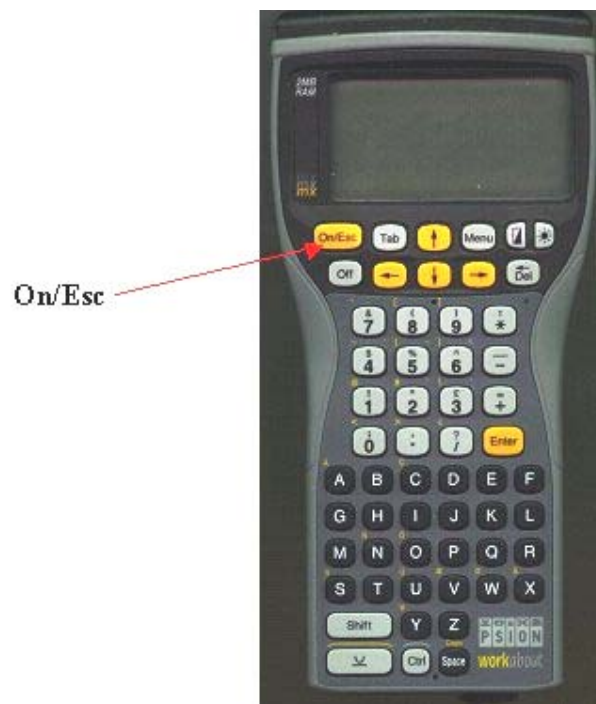

Fig. 2. The PSION computer
- a. Turn the PSION on by pressing the *On/Esc* key. Fig. 2.